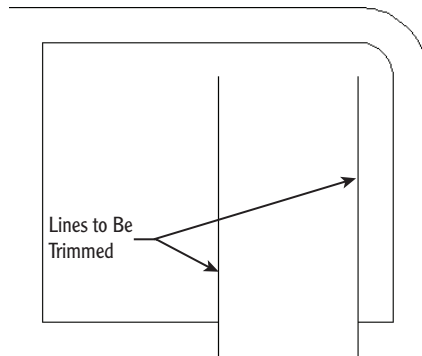
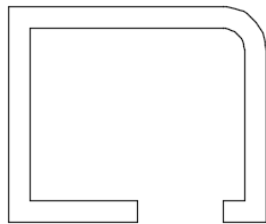

FIGURE 2.35: Lines picked to be trimmed
FIGURE 2.36: The completed trim
- Pick the two vertical lines that extend above the new opening. Be sure to pick them above the opening (see Figure 2.35). The lines are trimmed away, and the opening is complete. Press \downarrow to end the TRIM command (see Figure 2.36).